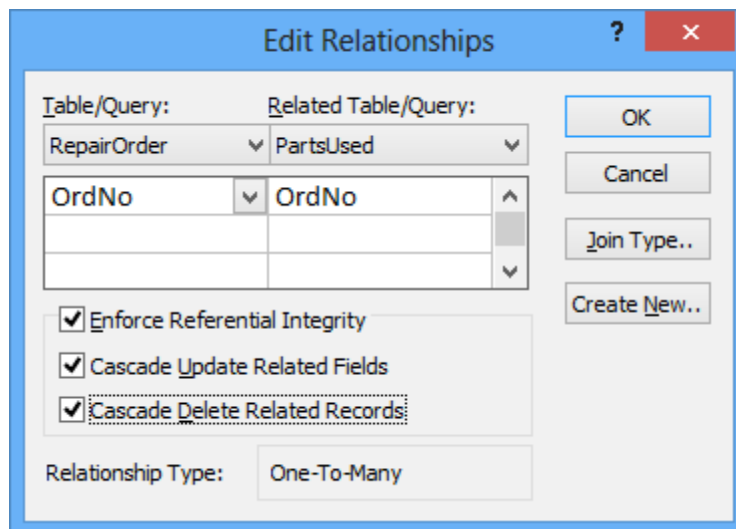

Figure 54: Dialog Box with All Three Details of a Relationship Selected
- For the relationships between the *RepairOrder* and the *PartsUsed* tables (a many-to-many relationship), you also choose both “Cascade...” check boxes (see Figure 54). You may want to refer back to textbook Chapter 3 to review the concepts of referential integrity and the rules about referenced rows.